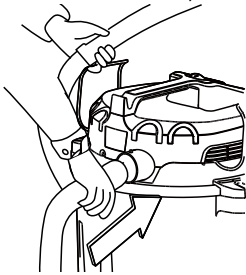

Fig. 5
12. Insert the larger end of the hose 15 into the blower port 2 on the back of the power head and lock into place. Fig. 5.